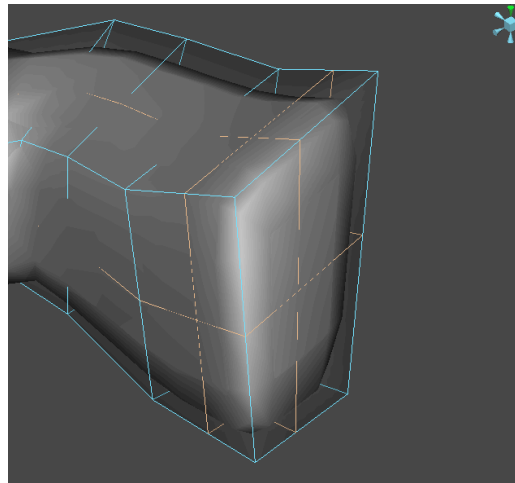

Figure 49: Three edge loops are inserted on the lower foot before the toes can be extruded.
13. The toes of the lower foot are created using the same techniques. Before extruding them, three edge loops need to be inserted as shown in figure 49.